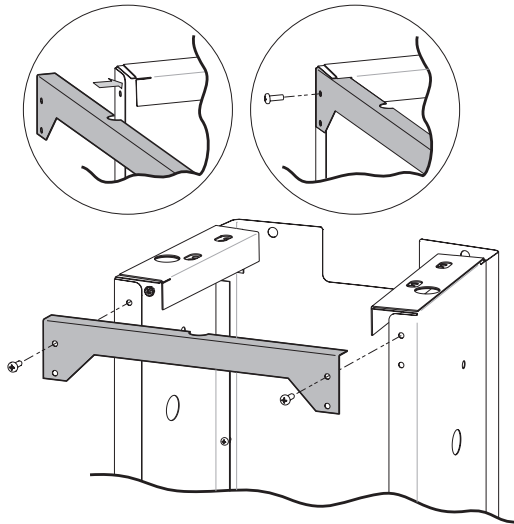

Figure 5
5. Attach Rear Brace to the Left and Right Side Assemblies with two 1/4-20 x 3/4" screws and nuts. See Figure 5. Important: Make sure the brace goes in the cutout of the support bracket.